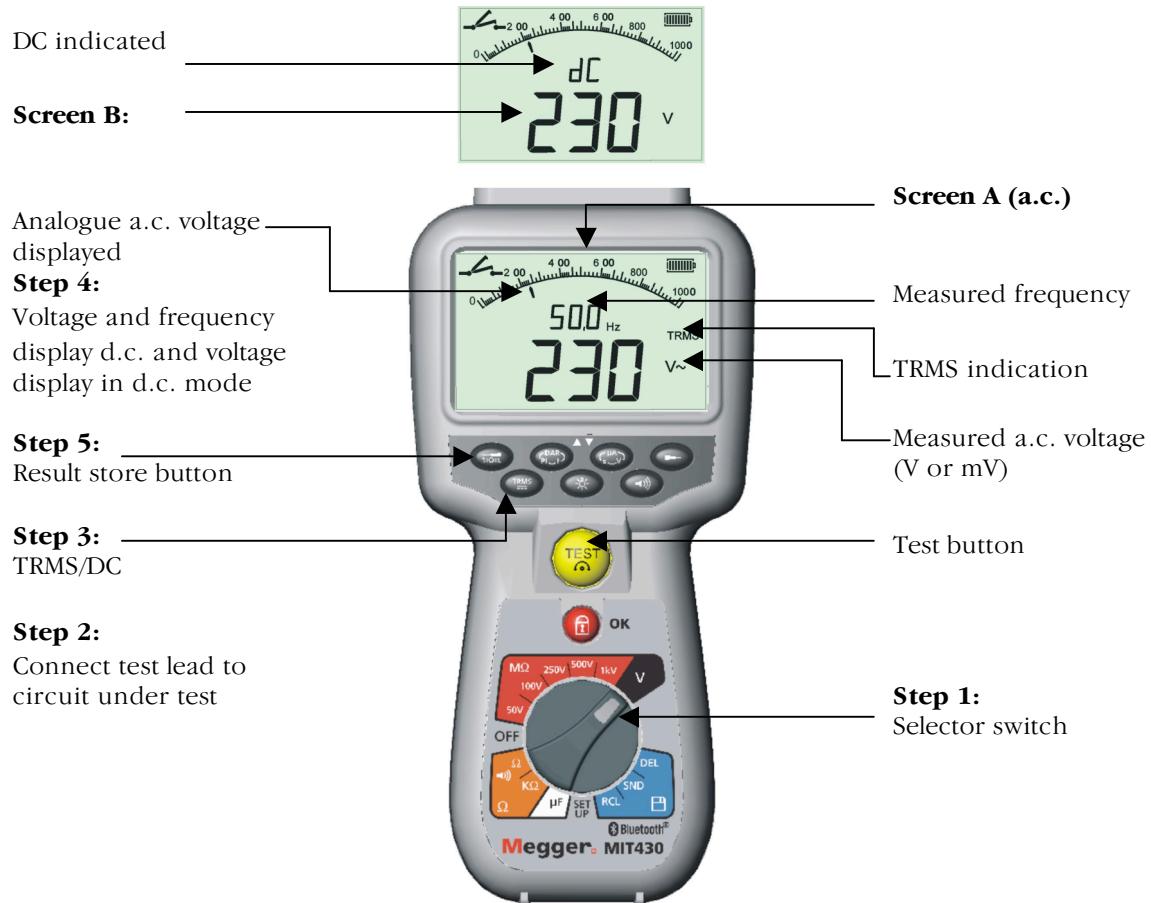

Figure 5 Voltage and frequency measurement
Procedure for measurement of voltage and frequency (Refer to Figure 5)
- A). See Figure 5 Screen B for dc mode display.